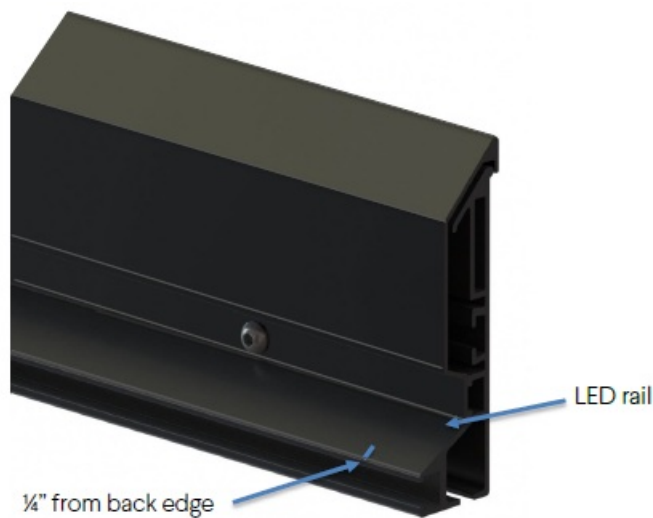

Figure 10: Cross section of Balón frame indicating LED rail
2. Begin at the LED rail and start laying down the adhesive side of the LED strip, about 1/4" away from the edge (see Figure 10).